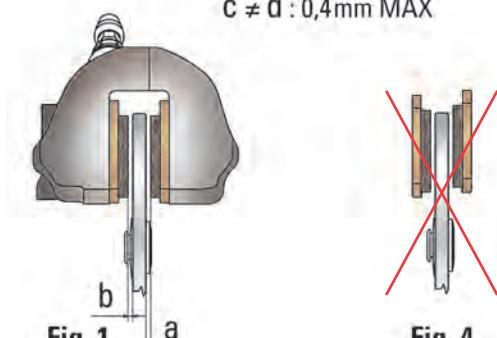

Fig. 1
- The caliper must be mounted in a symmetrical position with respect to the disc center line: Misalingment must be 0,15 mm MAX (see fig. 1).